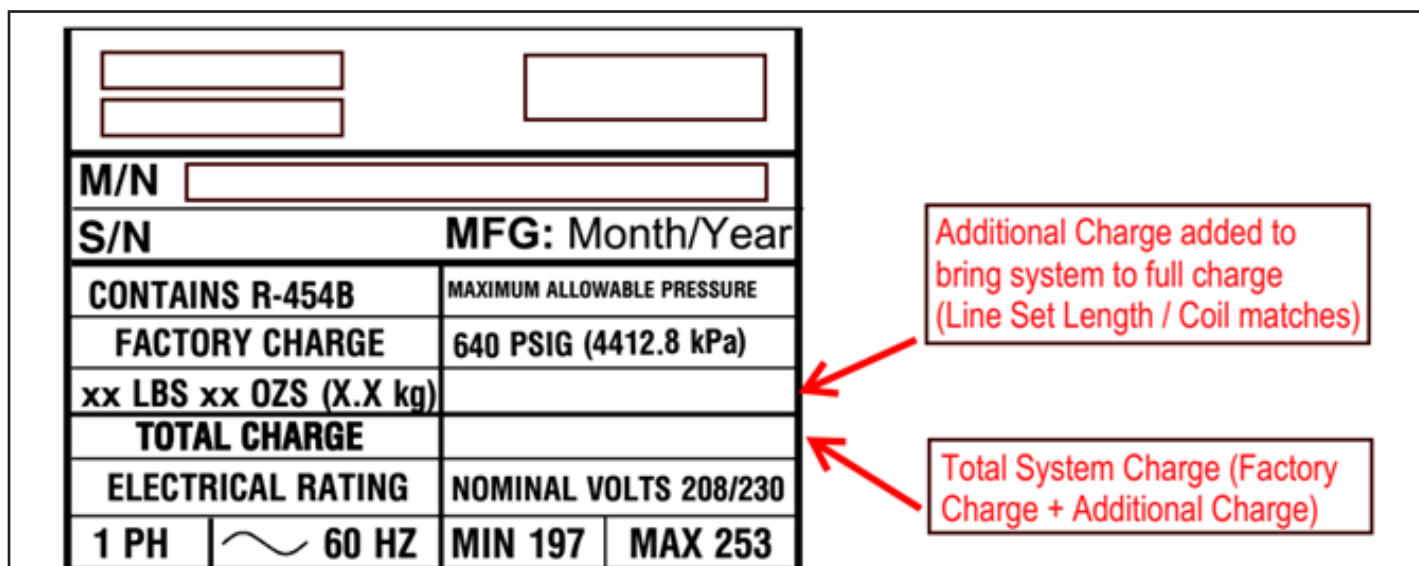

FIGURE 50. SL22KLV Charging Label
- 2 - Check and adjust indoor airflow as described in figure 50.